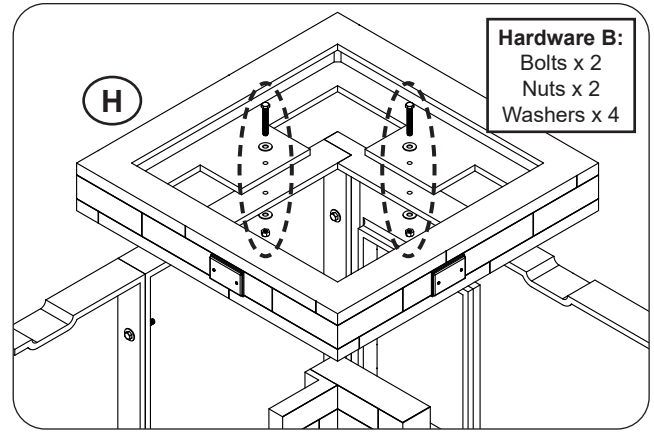

Fig. 15-1 Assemble top piece
Orient the top piece (H) and repeat the hardware installation process (hardware kit B). Fully tighten. See Fig. 15-1.